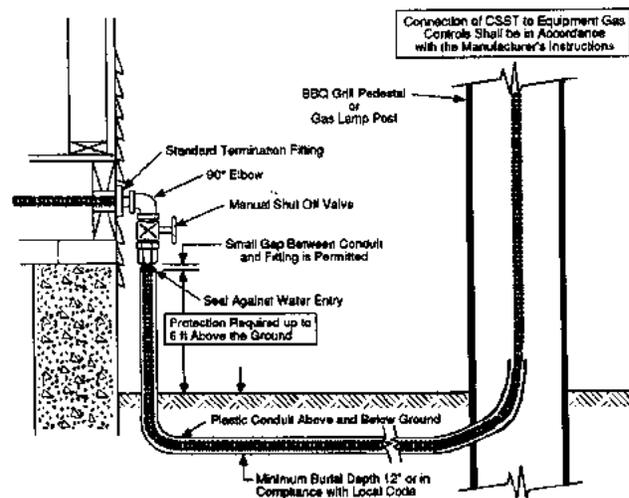

Figure 4-18
4. Yard mounted lights shall be connected to the **TracPipe** system as shown in figure 4-18. All piping installed below grade shall be protected by non-metallic, water-tight conduit or **TracPipe PS** or **TracPipe PS-II** for underground use. Exposed ends of the conduit shall be sealed against water entry.